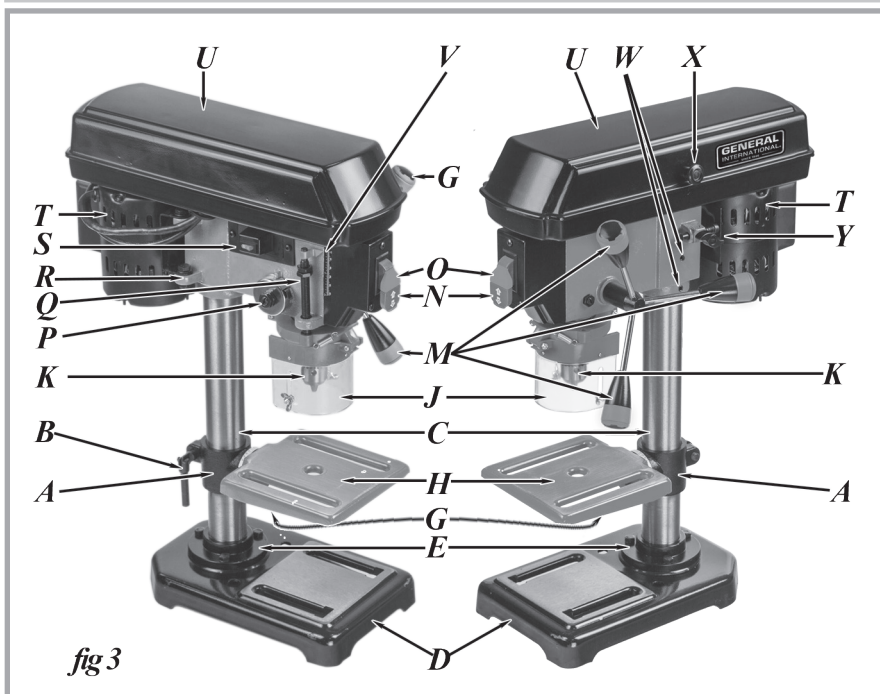

fig 3
6. Using a 4 mm hex (Allen) key, fasten the head assembly in place by tightening the head lock set screws (W, fig 3) in the right side of the head casting.
8. Clamp the chuck safety guard (J, fig 3) to the lower exposed part of the quill tube using the Philips head machine screw and nut at the back. Do not over-tighten.
15. Install an M5 x 12 pan head screw from the inside of the pulley cover through the hole and attach the knob (X, fig 3) to the outside.
1. Locate the laser switch (S, fig 3 & 6) on the left side of the head assembly.
2. To move the belt, loosen the belt tension lock knob (Y, fig 3) on the right side of the head assembly, and let the motor pivot forward so that it reduces the distance between the drive (motor) pulley and the spindle pulley.
6. Insert the drill bit into the chuck (K, fig 3) far enough to obtain maximum grip from the chuck jaws. Make sure the drill bit is centered in the chuck.
11. The drilling depth may be controlled by watching the indicator (i, fig 4) and depth scale (V, fig 3 & 5), on the left side of the drill press head, or it can be regulated quite precisely by setting the depth stop nut (s, fig 4) on the depth stop rod (Q, fig 3 & 4). The lock nut (l, fig 4) above it can be tightened against the stop nut to prevent the set depth from changing during multiple drilling operations.